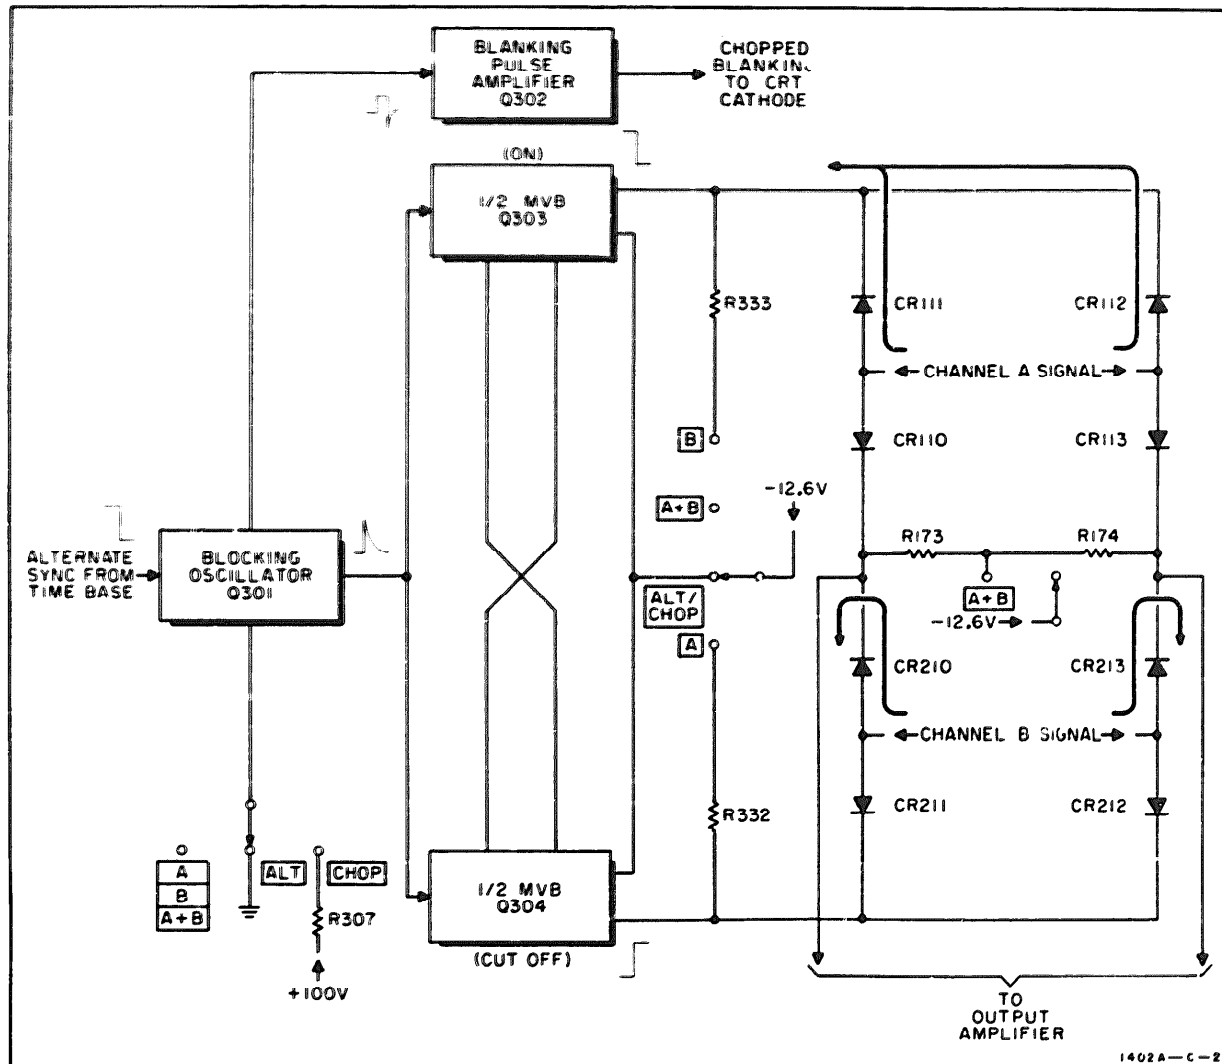

Figure 2-11. Switching Circuit Simplified
The switching circuit consists of a blocking oscillator, a blanking pulse amplifier, and a multivibrator. The switching circuit applies either cut-off bias or conducting bias to the switching diodes at the output of each amplifier channel (CR110 through CR113, and CR210 through CR213) and thus determines which channel is on at a given time. Fig. 2-11 is a simplified diagram of the switching circuit.
C. MULTIVIBRATOR. Transistors Q303 and Q304 are connected in a bistable multivibrator circuit. Depending on the position of the FUNCTION switch the multivibrator may be switched by positive triggers from Blocking Oscillator Q301 (ALT or CHOP), locked in either of its two stable states (A or B), or disabled (A+B). Fig. 2-11 illustrates signal conditions for ALTERNATE operation at a time when Q303 has been switched on (output more negative) and Q304 has been cut off (output more positive). With these output voltages, CR111 and CR112 are forward-biased, which shorts Channel A signal. The current of Channel A output transistors Q103 and Q104 flows through Q303 of the multivibrator. Diodes CR110 and CR113 are reverse-biased, which disconnects Channel A output from the output amplifier. Channel A is therefore "off". In Channel B, diodes CR211 and CR212 are biased off and CR210 and CR213 are forward-biased, which permits signal from Channel B output transistors Q203 and Q204 to be coupled to the output